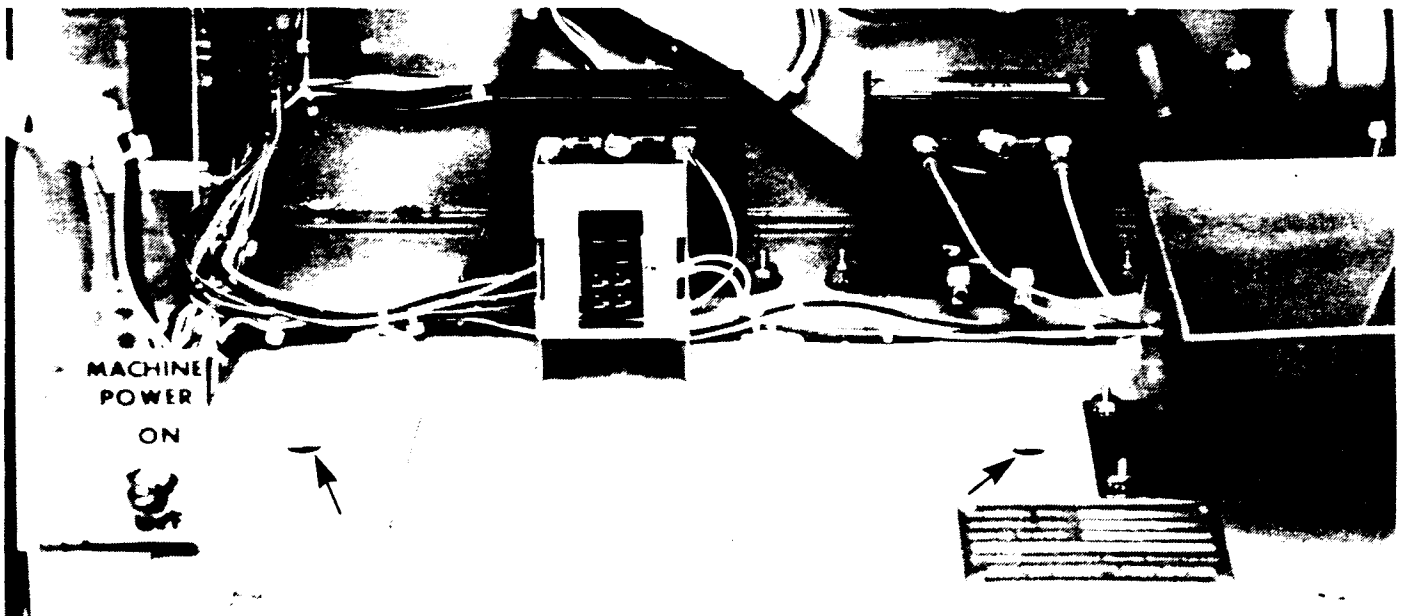

Figure 2-1
- 1) Set the machine on the stand and align the mounting holes on the floor of the cabinet with those on the top of the stand. See Figure 2-1.